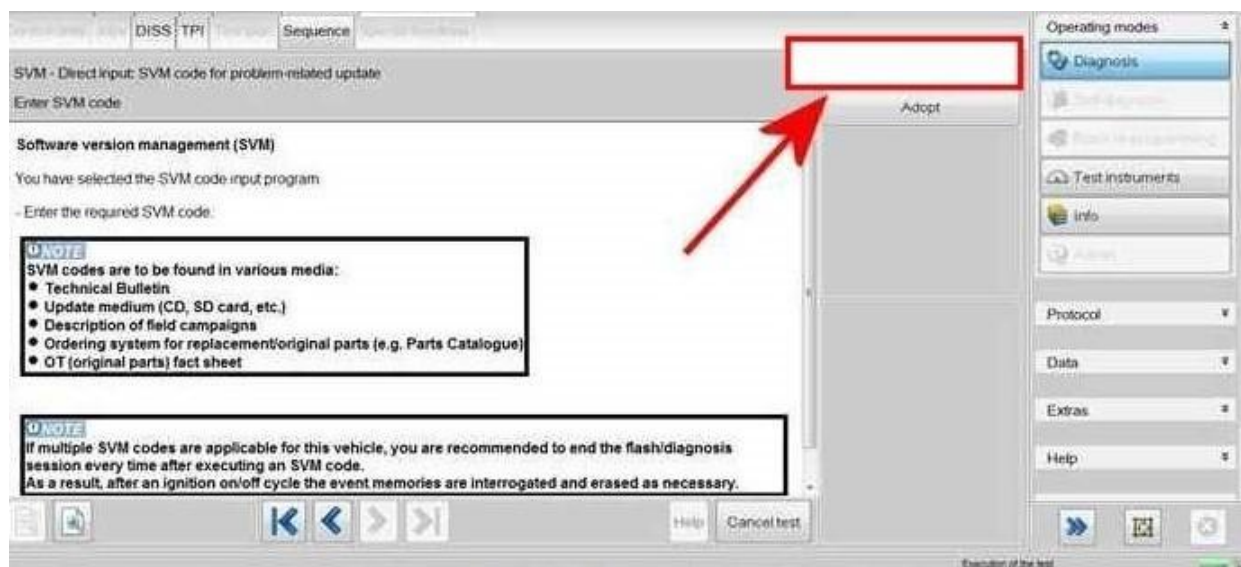

Figure 6
10. Referring to Figure 6 - Enter the SVM code **370WAD01**